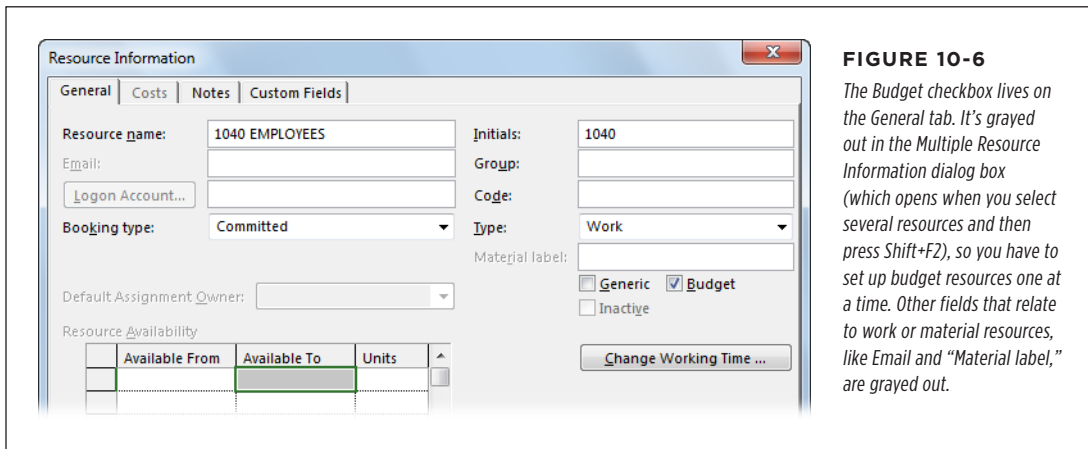

FIGURE 10-6
4. On the dialog box's General tab, turn on the Budget checkbox, as shown in Figure 10-6, and then click OK.